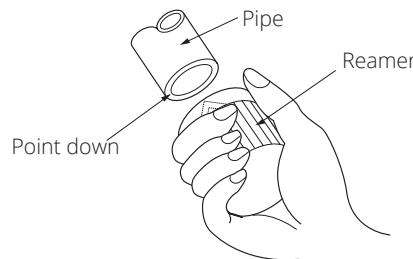

**Fig. 7.4**
- Make sure that the pipe is cut at a perfect 90° angle. Refer to Fig. 7.4 for examples of bad cuts